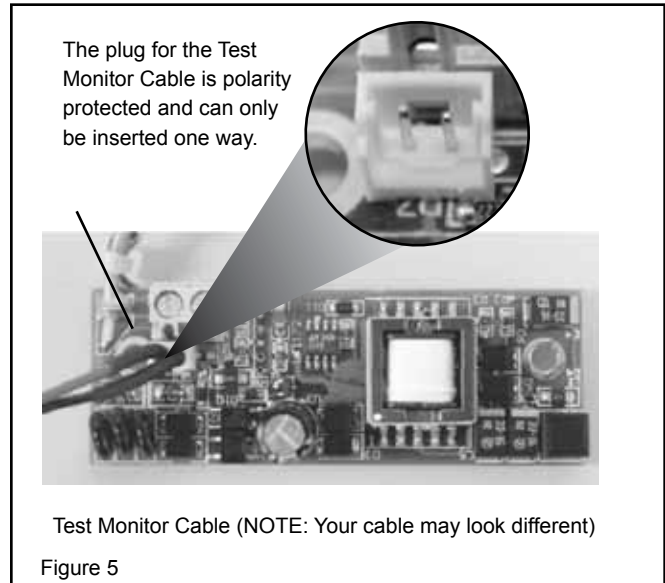

Figure 5
3. Plug the test monitor cable into the power board (Figure 5). Attach the BNC connector to your test monitor.